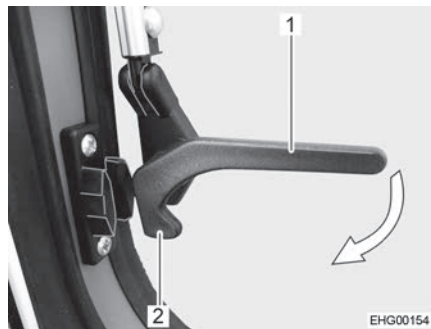

Fig. 40 Catch lever, on the side ("open" position)
- Turn the catch levers on the side (Fig. 40,1) a quarter turn towards the window frame until the locking catch (Fig. 40,2) engages.